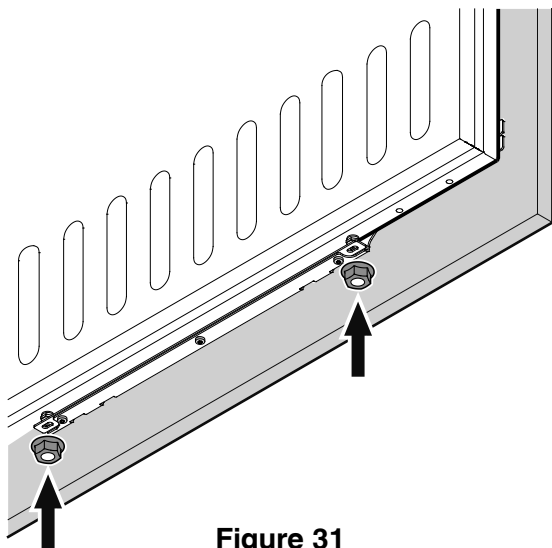

Figure 31
9. Screw on the hex nuts and tighten (Figure 31).